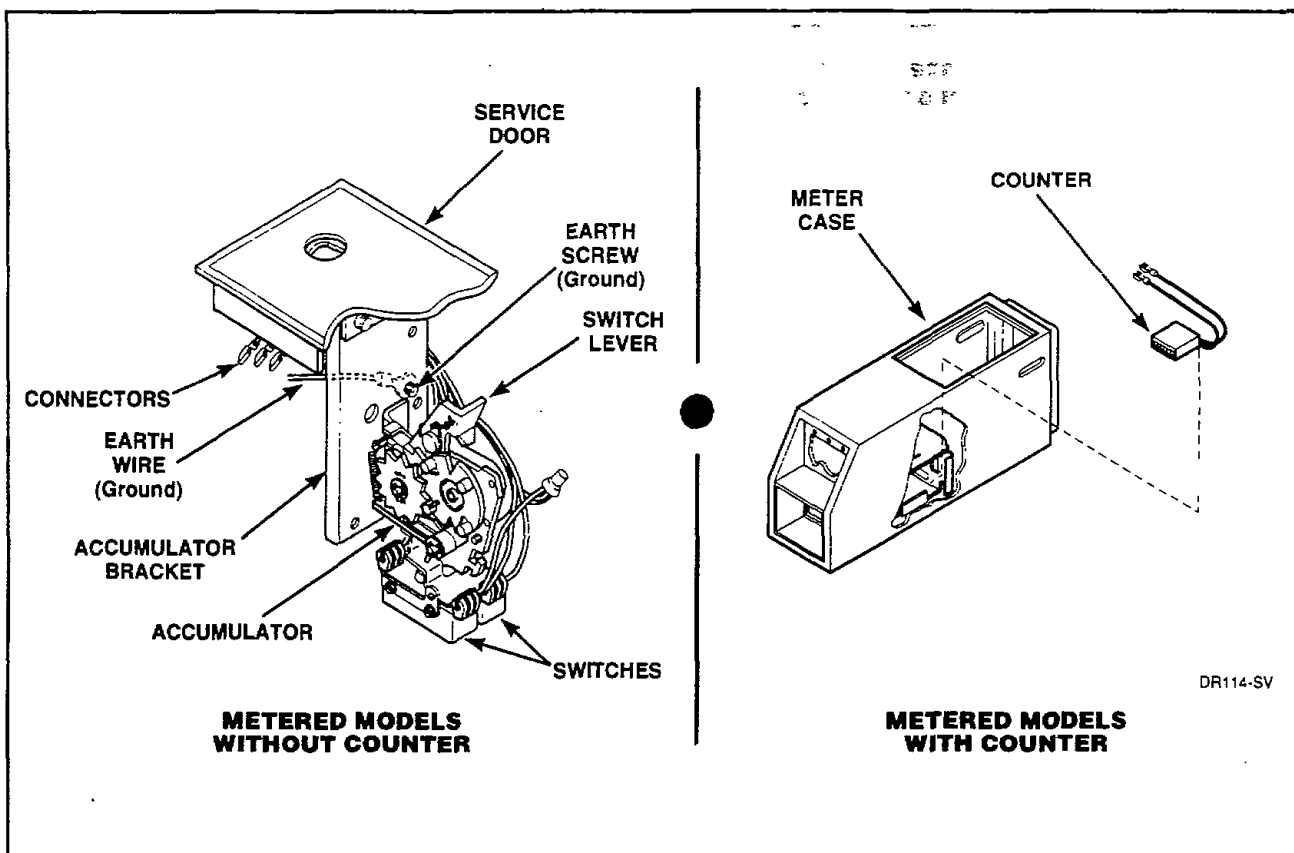

Figure 8
#### **c. Metered models: (Refer to *Figure 8*)**
### **10. SERVICE DOOR, ACCUMULATOR AND COUNTER (Metered Models - *Figure 8*)**
- Insert key in service door lock on top of meter case and unlock door, *Figure 8*.
- Lift rear of service door approximately 45° off meter case to disengage notched tabs with internal rib at top of meter case, *Figure 8*.
- Disconnect accumulator wires at connectors, *Figure 8*.
- Remove earth screw (ground) holding green earth wire (ground) to accumulator mounting bracket, *Figure 8*.